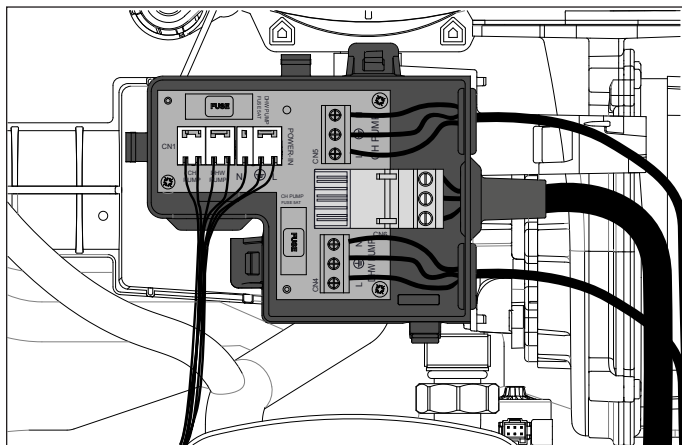

Figure 62 - 120V Connections for DHW and CH Circulators
6. Connect the cable on the connector CN4 (DHW pump) and CN5 (CH pump). See Electrical Wiring Diagram, Figure 62.